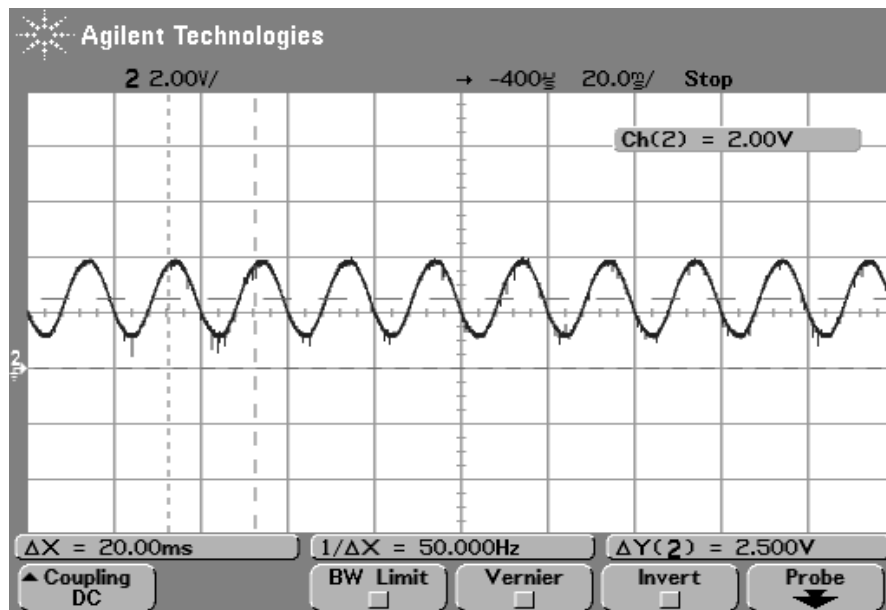

Figure W-7 Load Signal Waveform
10.3 Refer to Figure W-7. The waveform of Load.